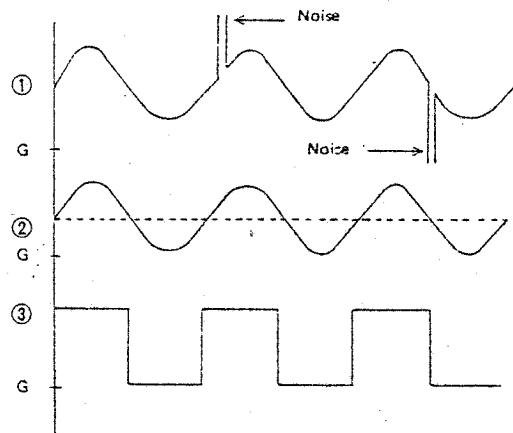

Fig. 3-14 AC Component of Output Signal
At the same time, the high voltage component due to noise is cut by zener diode ZD6. Then, the AC component thus obtained is supplied to IC "8D", where a threshold voltage is applied to the AC component with capacitor C25 and resistor R55 to shape its waveform as shown by ③ in Fig. 3-14 below. The signal is then passed to the pin No. 9 of IC "8D" and amplified for supply to the slave CPU as a pulse signal.